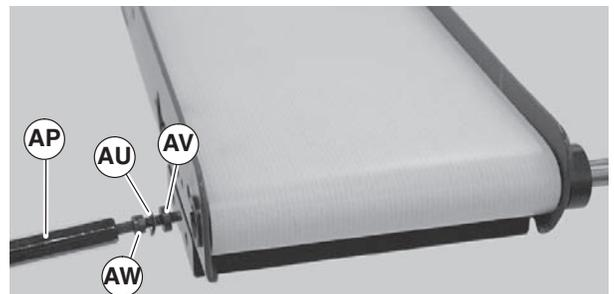

Figure 28
- Place pulley screw (Figure 28, item AW), wave washer (AU) and flat washer (AV) onto small end of hex key wrench extension tool (Figure 28, item AP) (25-08).